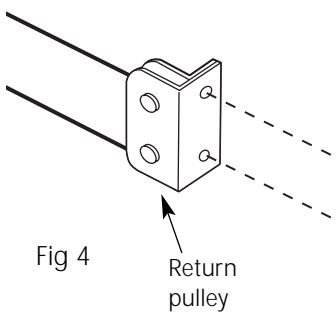

Fig 4
(3) Refer to the installation drawing for the fixing positions of the return pulleys. Fix the return pulleys at the opposite end and ensure all fixings are tight. (fig 4)